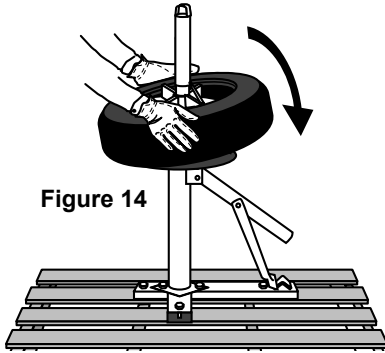

Figure 14
2. Set tire on rim and push down on opposite ends of the tire. See Figure 14, below.